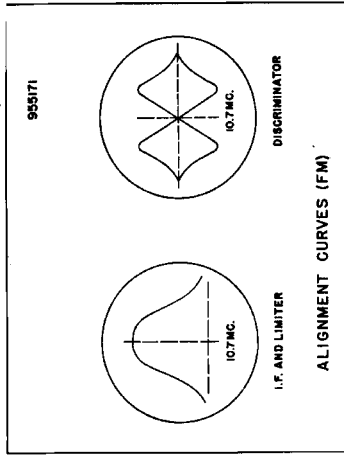

Figure 5-13—I-F and Discriminator Response Curves
- 3) Refer to figure 5-13 for response curves.